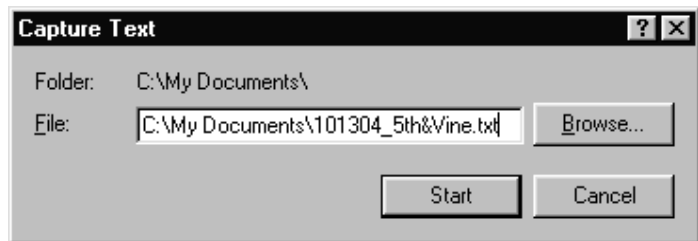

FIGURE 20
2. The **'Capture Text'** window appears see Figure 20 below. Enter a path and file name appropriate for the BBS unit. The example uses a date and intersection to designate the BBS. When finished click the **Start** button. The communication session will now be logged. The file will be saved automatically upon exit of HyperTerminal.